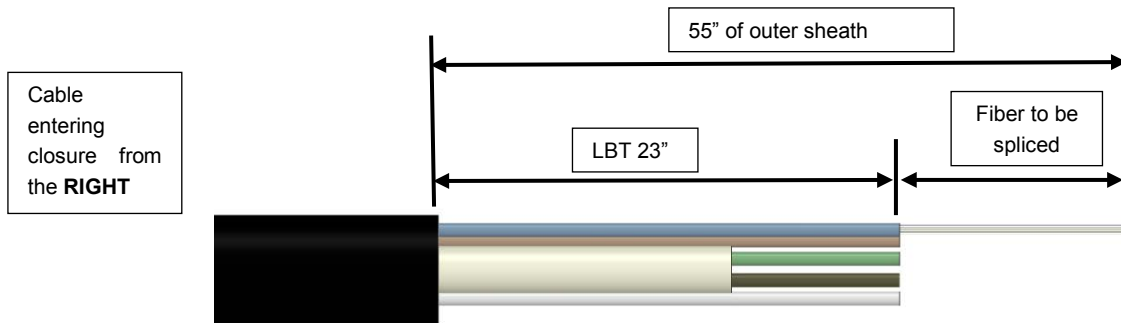

Figure 6
5.1.8 If cable enters closure from the right, mark buffer tube **23"** from sheath opening, ring cut and remove tubing. See Figure 6.